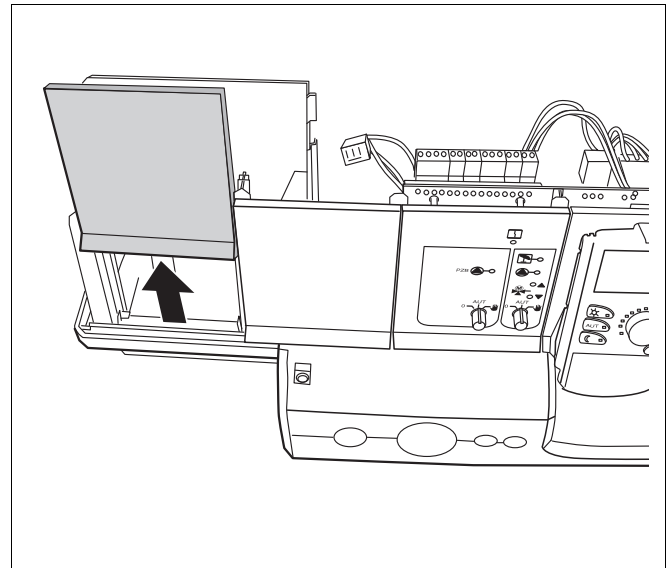

Fig. 4 Removing the blanking plate
- Remove the blanking plate of the slot (slots → Fig. 4) where an additional function module should be installed.